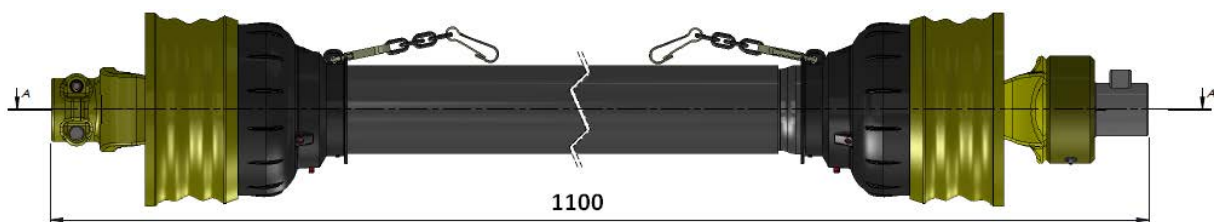

Figure 7- P.T.O. Shaft
The P. T. O. shaft that transfers the movement from the P. T. O. shaft of the tractor to the transmission of the machine is equipped with a joint that has a free rotation safety coupling (The shaft provided with the machine and recommended in the future when necessary: StarPto, Series 6, friction clutch type safety coupling, with a length of 1100 mm when the joint is closed. (See Figure 7).
- Secondly; measure the distance between the pins that fix the shaft on either side (See Figure 7). Make a note of this L value.